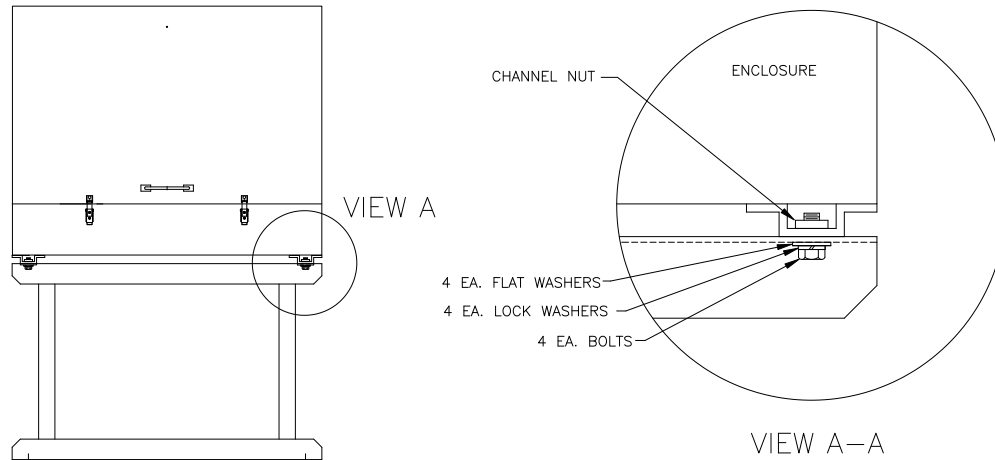

Figure 3-6 ENC82L–Enclosure Mounting Hardware
- 3) Place a split washer, then a flat washer on one of the 1 ¼" bolts and insert through bolt hole located in the angle iron into the outermost corner of the enclosure (see Figure 3-6).